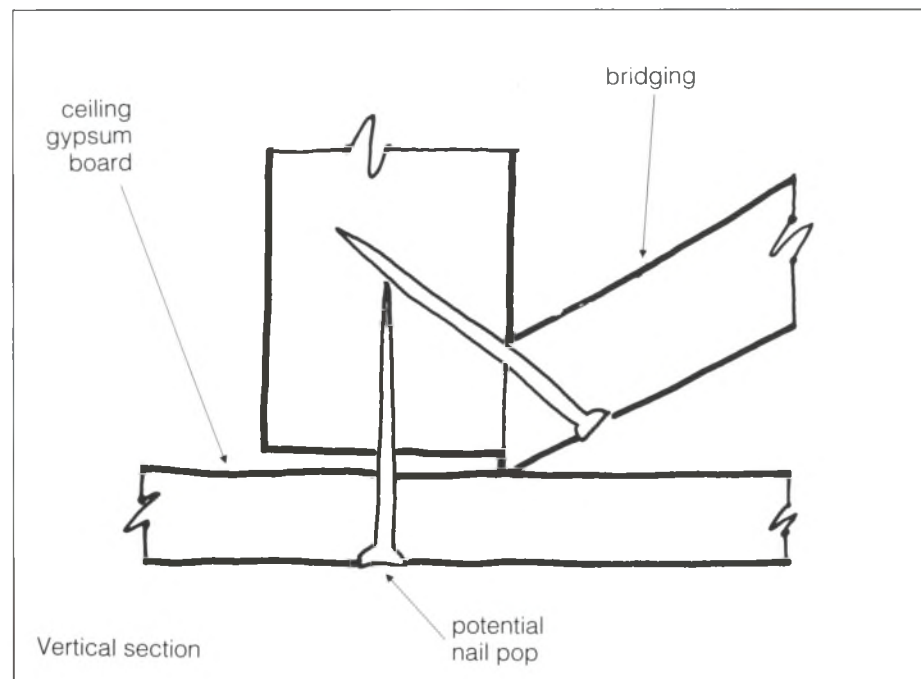

Fig. 3. Avoid protrusions
- Avoid protrusions from blocking or cross-bridging (fig. 3).